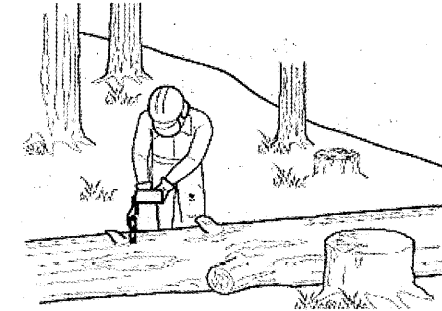

Fig. 40
4. When bucking on a slope always stand on the uphill side of the log (Fig. 40). When “cutting through”, to maintain complete control release the cutting pressure near the end of the cut without relaxing your grip on the product handles. Do not let the chain contact the ground. After completing the cut, wait for the saw chain to stop before you move the product. Always stop the engine before moving from tree to tree.